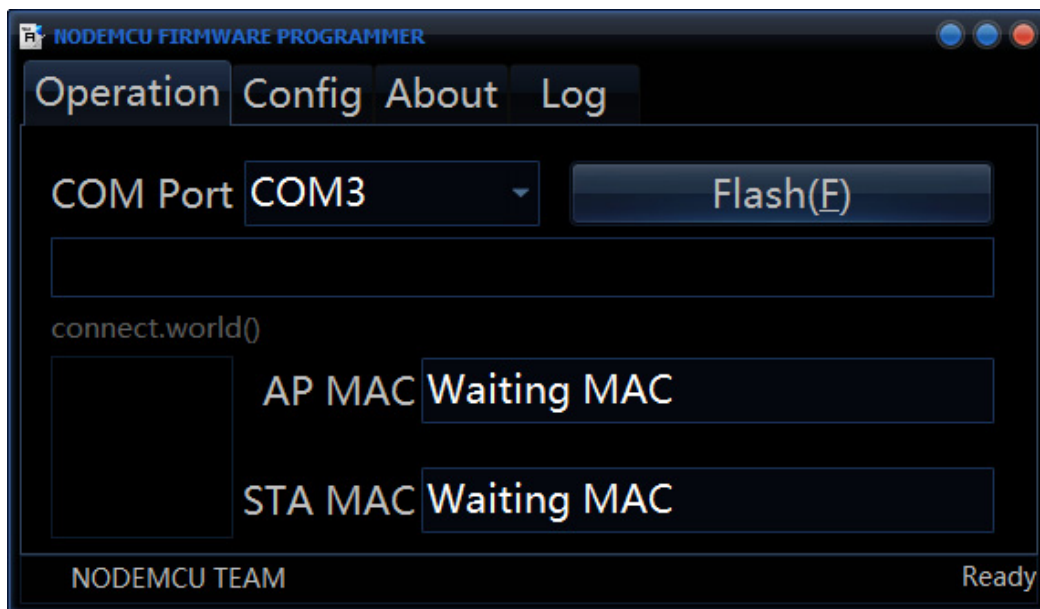

FIGURE 10 – ESP8266Flasher.exe, initial screen. Make sure to select the right COM port
2. - Run the program **ESP8266Flasher.exe**. This is the initial screen (**figure 10**); make sure that the right COM port is selected.